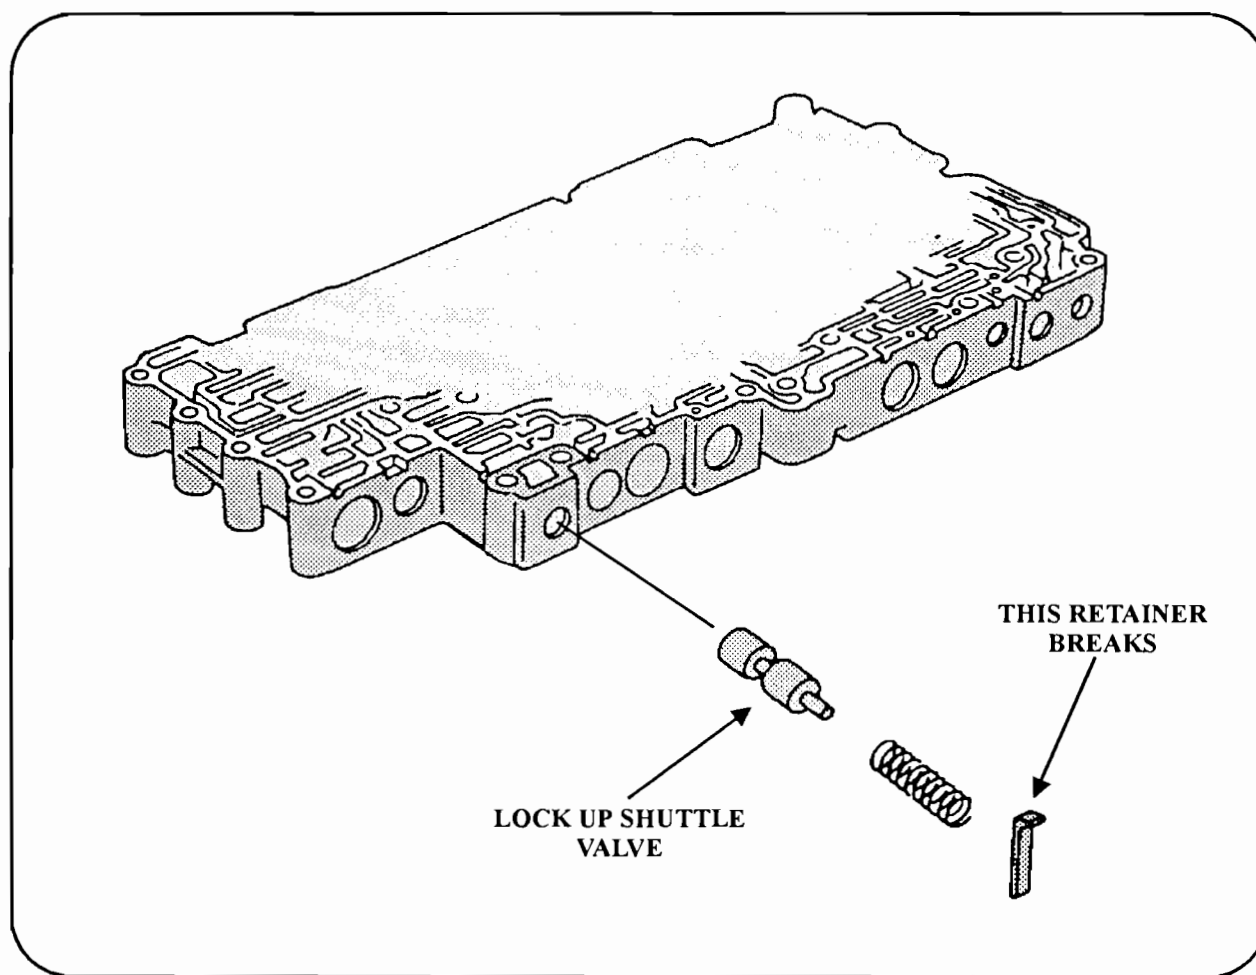

Figure 48
**CAUSE:** The torque converter clutch is immediately applied due to a broken lock up shuttle valve retainer (See figure 48), which has jammed the valve in the apply position.